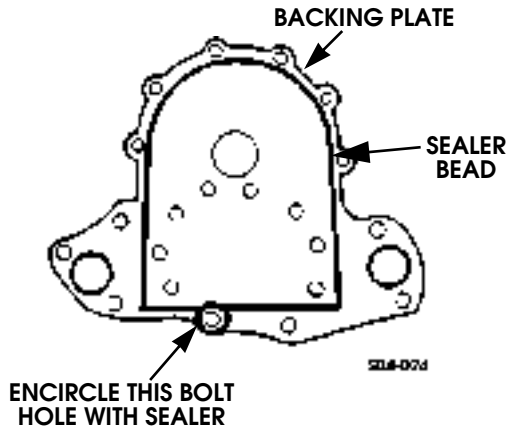

Figure 4-28: Backing Plate Sealer Application
3. Apply 1/8 - 3/16 in. (3.3-5 mm) wide bead of sealer to backing plate (Figure 4-28). Encircle bolt hole at bottom of plate with sealer as shown. Also apply sealer to threads of bolt or stud used in this hole to avoid leaks.